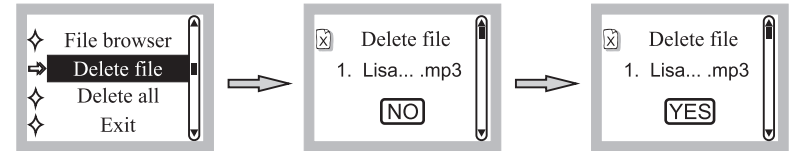

Fig. 24
- (2) Delete File: Press Parameter knob to enter the “Delete file” screen. Turn right or left to select “NO” or “YES”. Press Parameter knob to confirm, Fig. 24.